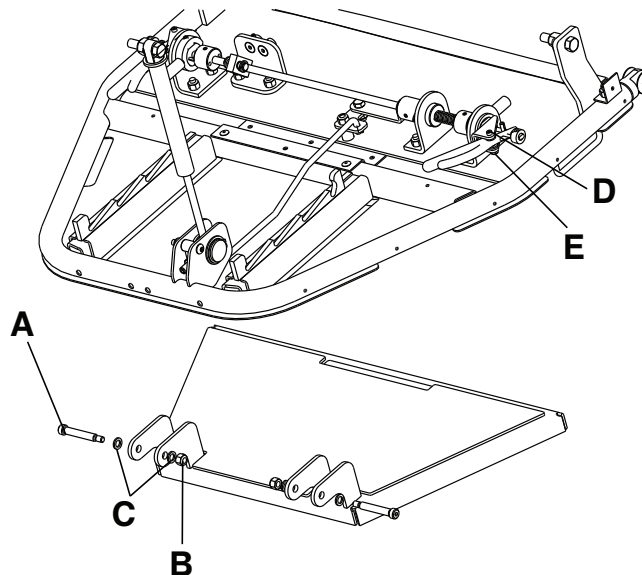

Figure 15 – Footrest pan removal
5. Using a 5/32" hex wrench and a 7/16" combination wrench, remove the Nylock lock nut (B), bolt (A), and washers (C) from both of the footrest pivots located under the foot section (Figure 15). Save all parts.
8. For stationary footrests only, align the holes in the footrest pan L-brackets with the round pivots (D) on the foot section frame.
9. Reverse steps to reinstall the Nylock lock nut (B), bolt (A), and washers (C) (removed in step 5) on both footrest pivots.